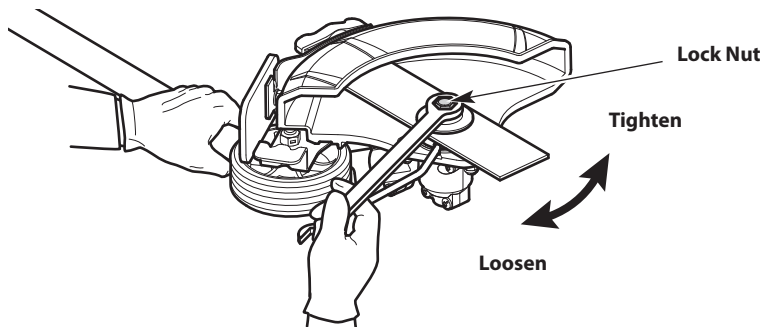

Fig. 18
3. While holding the locking rod, loosen the lock nut by turning it **clockwise** with a 13 mm wrench (Fig. 18).
6. While holding the locking rod, tighten the lock nut by turning it **counterclockwise** (Fig. 18). Make sure that the edger blade stays flat and centered against the output shaft while tightening the lock nut.